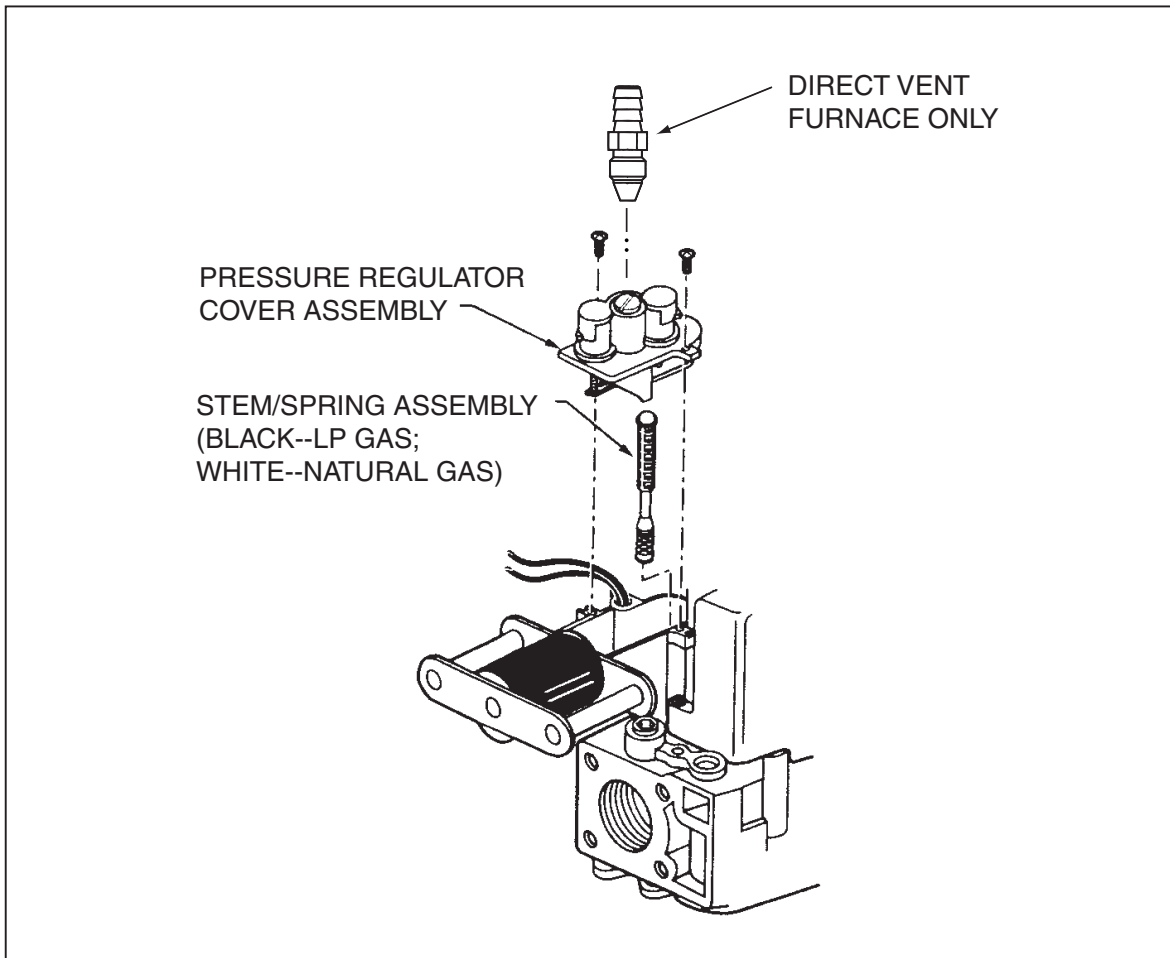

Figure 3. Installation of the Conversion Kit.
3. Remove the pressure regulator cover assembly as shown in Figure 3.
1. If the manifold pressure must be adjusted, remove the protective cap or fitting from the top of the gas valve regulator, as shown in Figures 3 and 4.